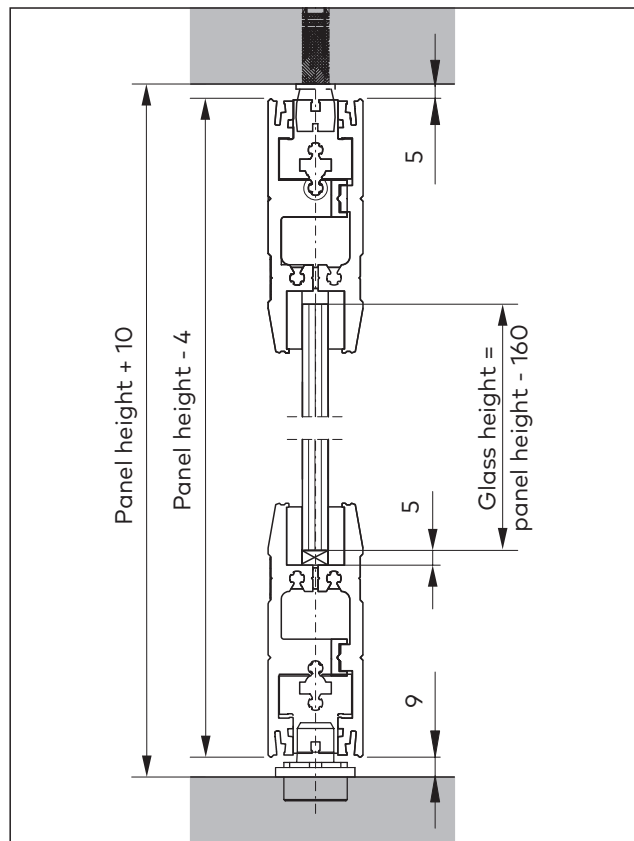

Fig. 17 Panel clearance without cover profile
1. Note the panel clearance (Fig. 17).